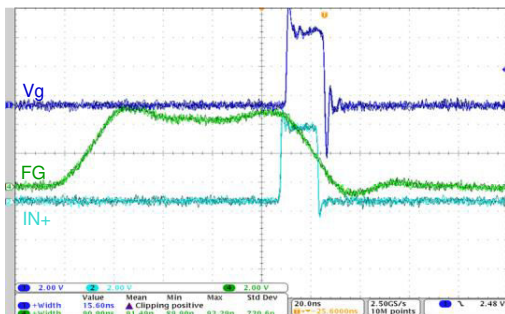
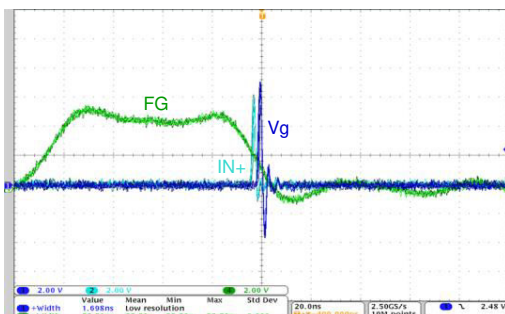
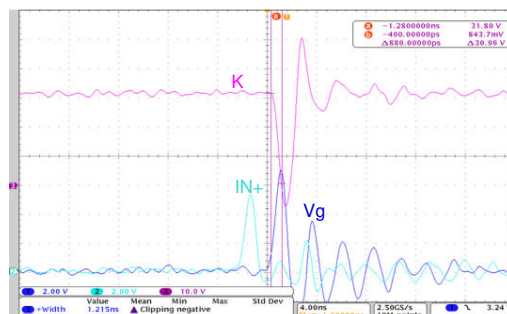

Figure 11-1. 90-ns Pulse from Function Generator Yielding 15-ns Pulse on the Gate
Figure 11-3. 84-ns Pulse from Function Generator Yielding 1.5-ns Pulse on the Gate
Figure 11-4. 1.2-ns Gate Pulse Yielding 1.5 ns, 30 V into 1-Ω Pulse (500-MHz Scope)
Figure 11-1 through Figure 11-4 present typical performance curves for LMG1020EVM-006.
Figure 11-1 through Figure 11-3 show how the input stage performs and how the buffer cleans up and shortens the input pulse. This allows the use of a function generator with lower specifications.
Figure 11-4, taken with a 500MHz oscilloscope, shows typical operation waveforms. On the (K) waveform it is possible to see a 20V overshoot, this is due to the inductance in the power loop. Vg seems to be oscillating, but this is caused by pickup noise, which is inevitable even when using a spring ground connection. The expected resonant frequency for the gate loop is ~70-90MHz (given Gate capacitance of ~10nF and Gate inductance of 3-5nH), the oscillation observed is at 250MHz, which would imply a gate loop inductance of ~40pH. This is therefore pickup noise.